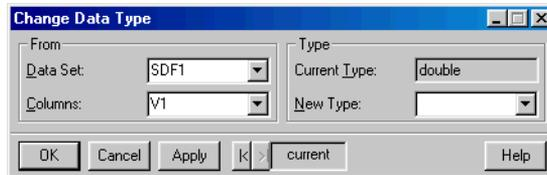

Figure 2.15: The *Change Data Type* dialog.
1. Click in the column and then click the **Change Data Type** button  on the **Data** window toolbar or choose **Data ► Change Data Type** from the main menu. The **Change Data Type** dialog opens, as shown in Figure 2.15.